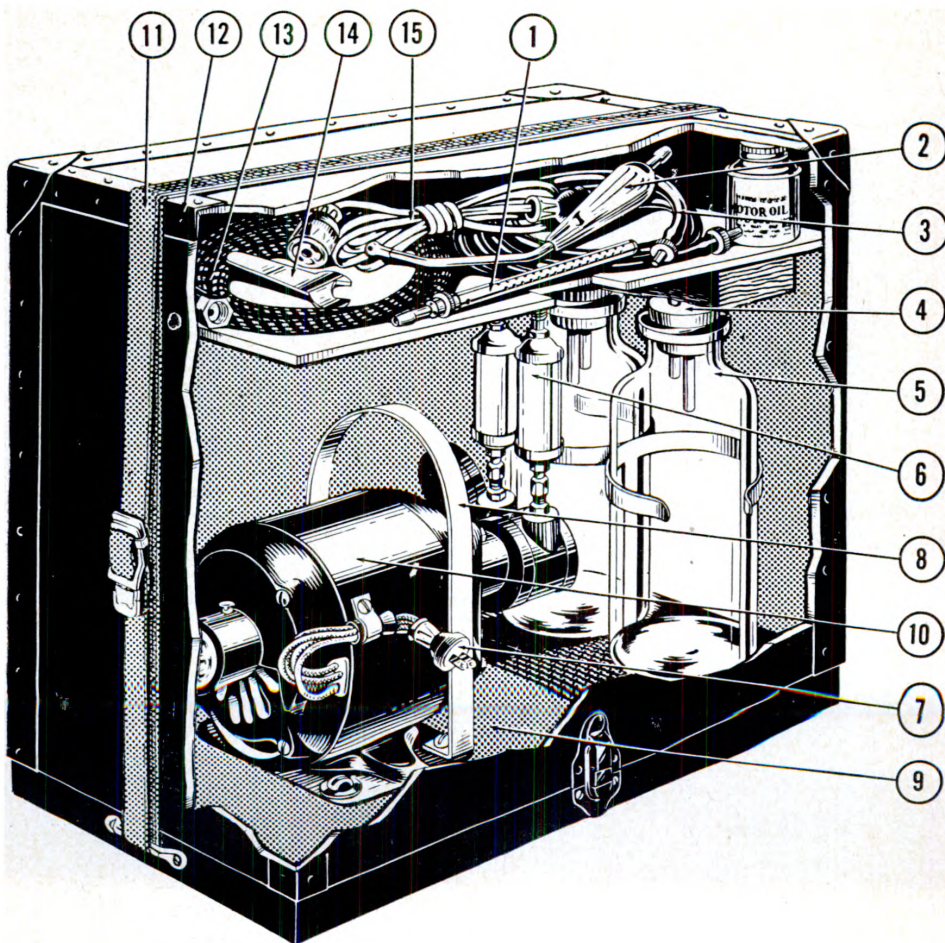

Figure 1. Suction apparatus, Sorenson, cut-away of cover.
1. SCOPE. This manual is published for the information and guidance of all personnel charged with the operation and maintenance of suction apparatus, portable, electric, Medical Department item No. 37750 (fig. 1), in the field.
e. Either the Yankauer suction tube or the Poole abdominal suction tube (figs. 1 and 2) may be slipped into the end of the vacuum rubber tubing as the operation may require.
c. Put the cover in place, fasten the hasps, and buckle the strap tightly around the case. The suction apparatus is then completely packed and ready for transportation (fig. 1).